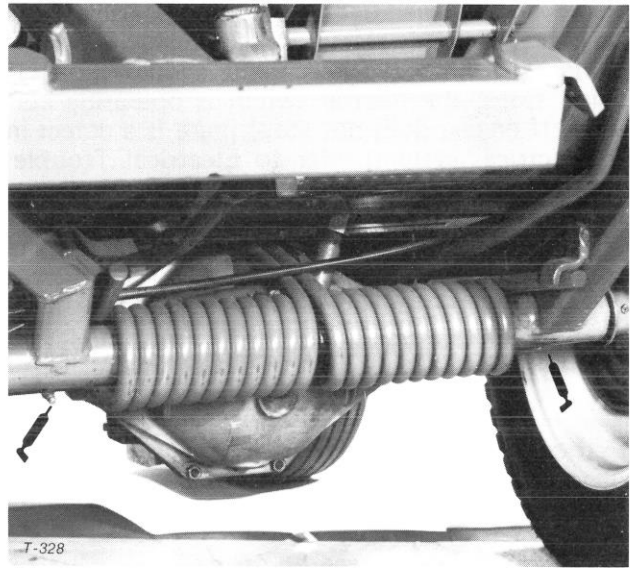
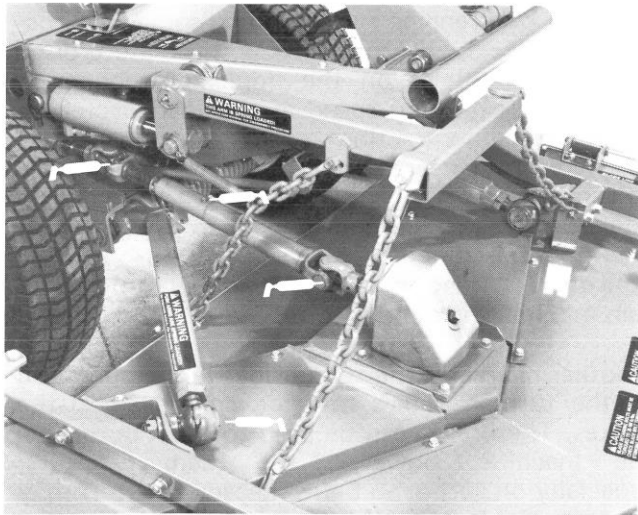
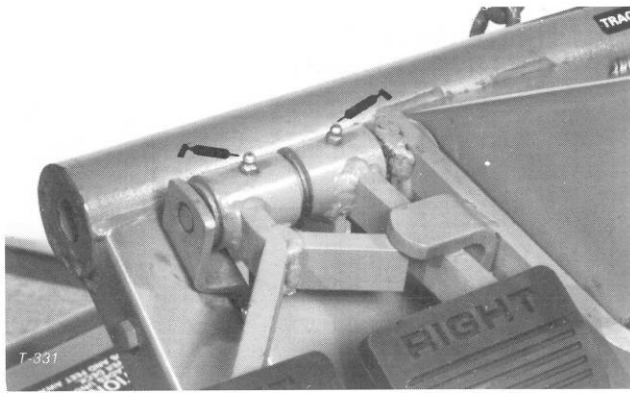
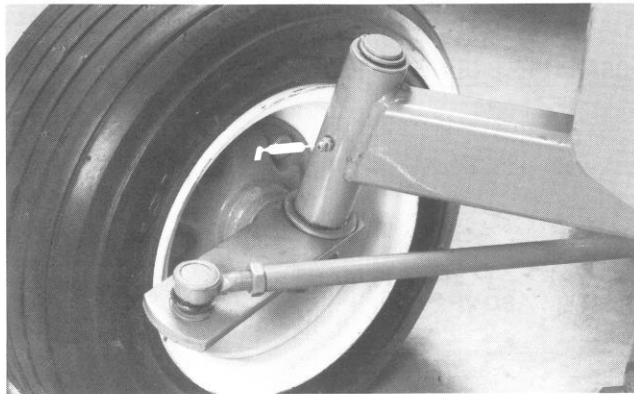

Figure 32
Figure 30
Figure 35
Figure 36
1. The traction unit bearings and bushing that must be lubricated are: PTO shaft and yokes (Fig. 30); lift arm pivots (Fig. 31); right and left push arm ball joints (Fig. 30); push arm pivot bushings (Fig. 32); steering gear (Fig. 33); PTO pivot housing blocks (Fig. 34); brake pivot bushings (Fig. 35); rear wheel spindle bushings (Fig. 36, 37); steering plate bushings (Fig. 37); axle pin bushing (Fig. 37); and engine output shaft bearing (Fig. 38). Also apply grease to both brake cables at the drive wheel and brake pedal ends.